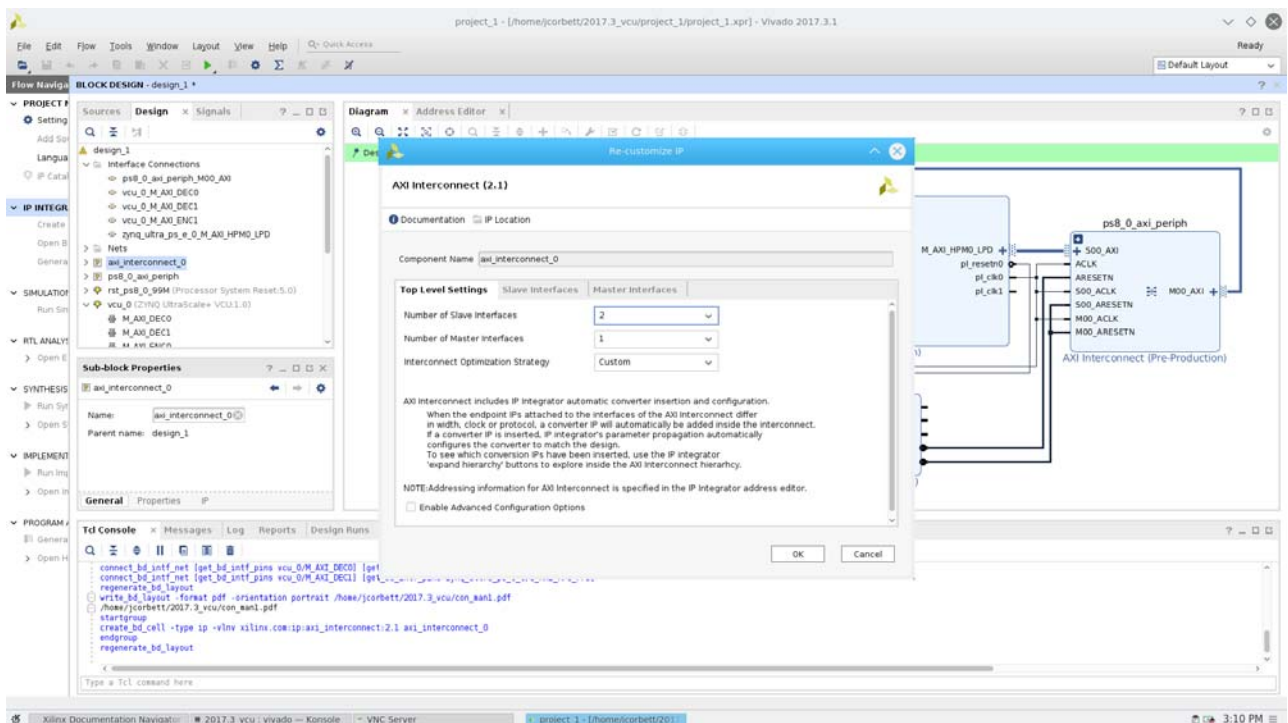

Figure 10-12: AXI Interconnect
15. Add the AXI Interconnect IP and set number of slave interfaces to **2** and master interface to **1** as shown in Figure 10-12.